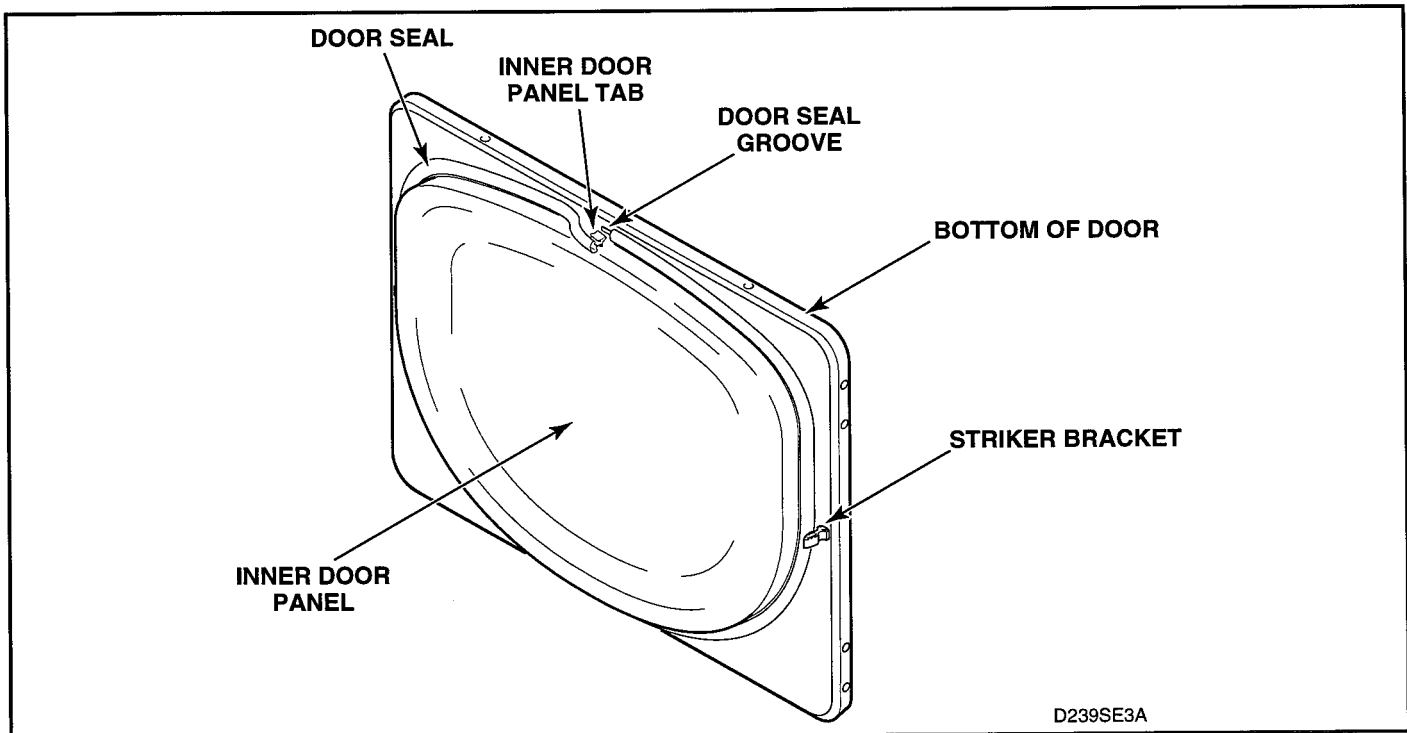

Figure 5-7
### 15. DOOR SEAL (Figure 5-7)
- Grasp either end of door seal at bottom of door and remove seal from tabs on inner door panel by gently pulling on the seal. See figure 5-7.
**NOTE:** When replacing seal, be sure seal is not stretched or distorted. The groove in the seal should be installed on each tab of the inner door panel, as in figure 5-7. The split in the seal should be at the bottom of the door.